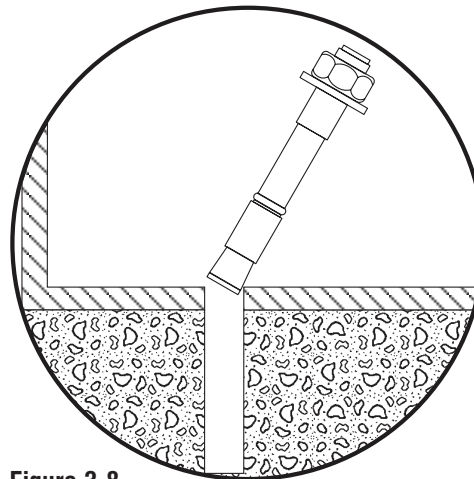

Figure 3-8
4. To insure proper depth of embedment, position nut on anchor so that only one thread is visible above the nut. Insert anchors into drilled holes and tap down until the washer and nut are seating against the floor clamp. See Figure 3-8.